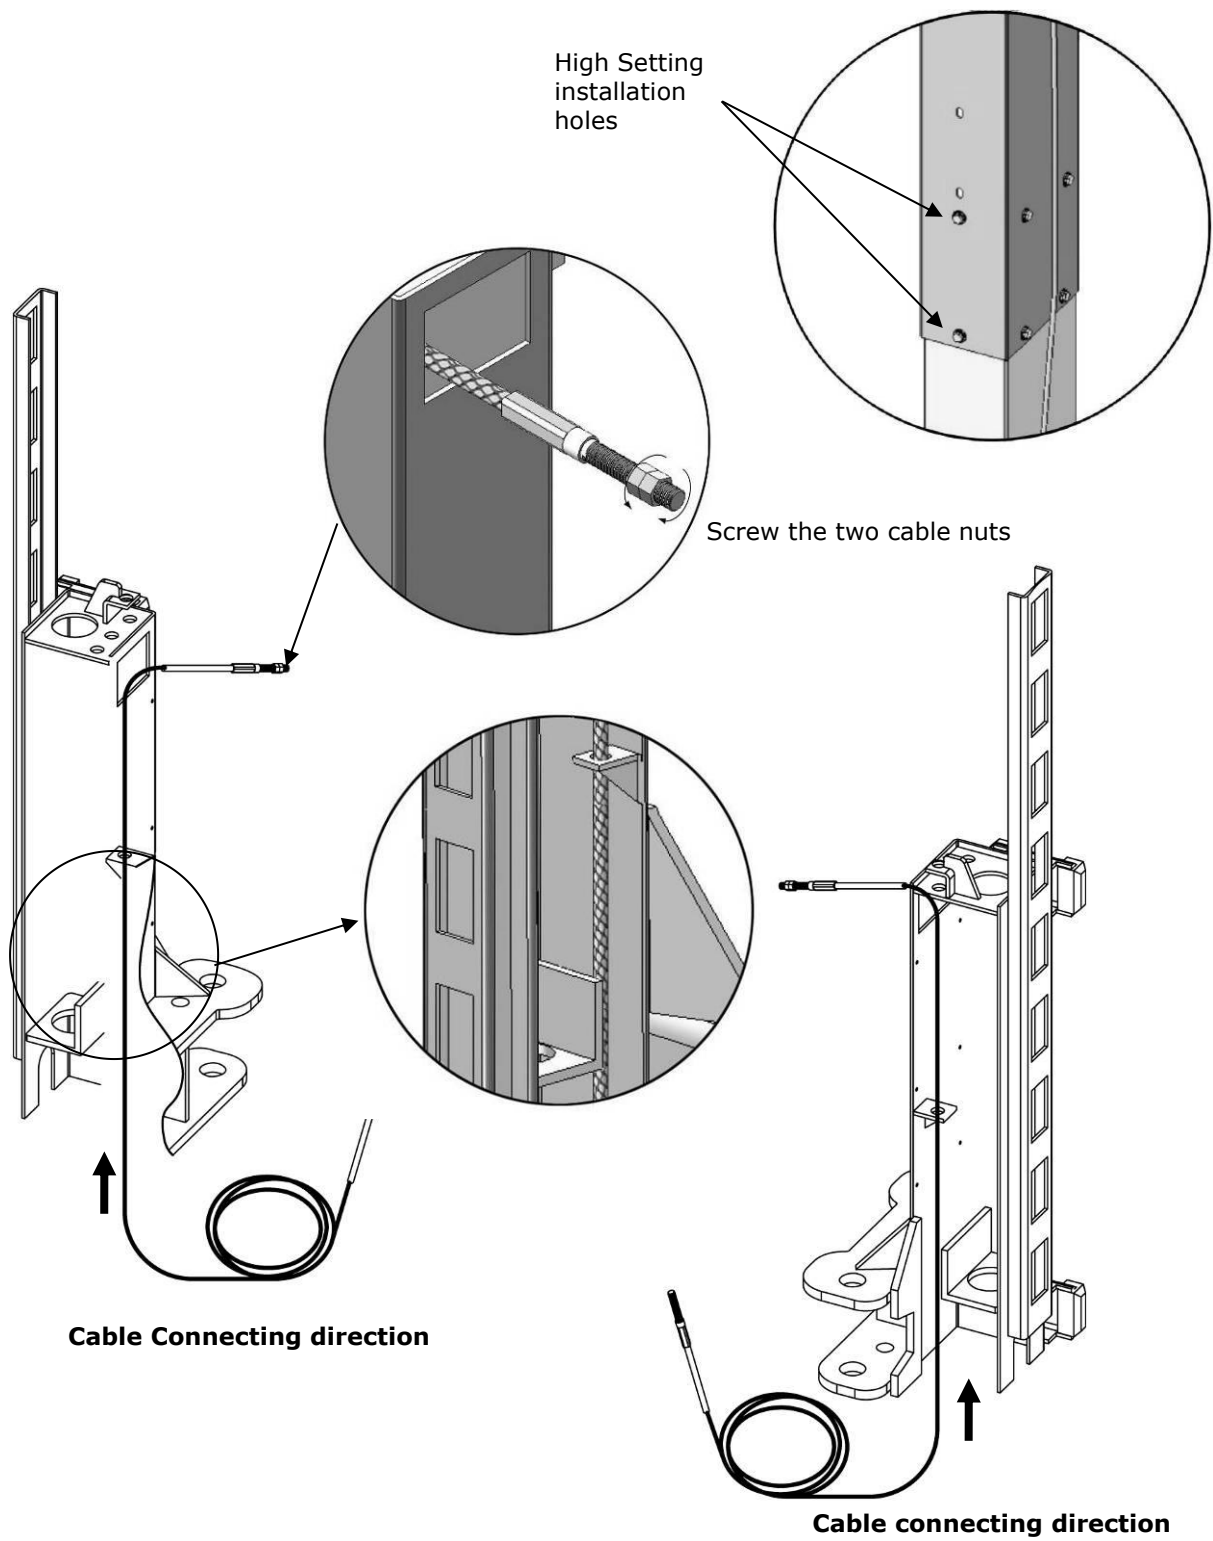

Fig. 26
2.1. Cable pass through from the bottom of the carriages and be pulled out from the open of carriages, then screw the two cable nuts (**See Fig. 26**).